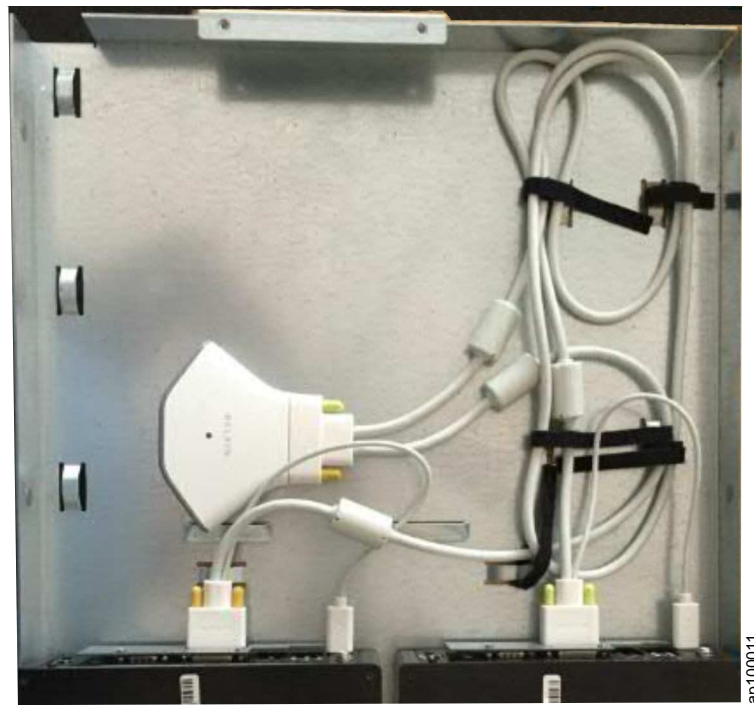

Figure 10. KVM switch cabling
12. Reroute the KVM switch cables according to Figure 10.